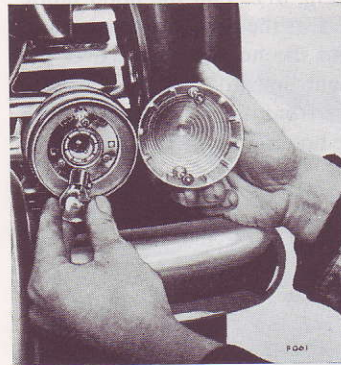

Fig. 61
**Front Direction Indicator Flashing Lamps (Fig. 61)**